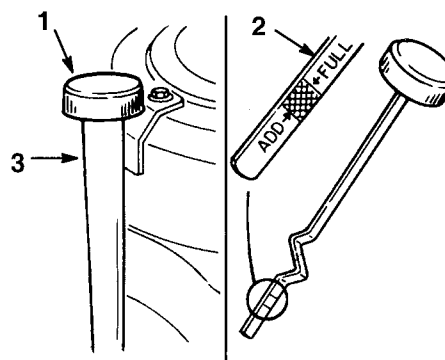

Figure 18
3. Clean around the oil dipstick (Fig. 18) so dirt cannot fall into the filler hole and damage the engine.
4. Unscrew the oil dipstick and wipe the metal end clean (Fig. 18).
5. Slide the oil dipstick fully onto the filler tube, do not thread onto tube (Fig. 18). Pull the dipstick out and look at the metal end. If oil level is low, slowly pour only enough oil into the filler tube to raise the level to the "FULL" mark.
7. Slowly pour approximately 80% of the specified amount of oil into the filler tube (Fig. 18). Now check the oil level; refer to Checking Oil Level, page 20. Slowly add additional oil to bring to "FULL" mark on dipstick.